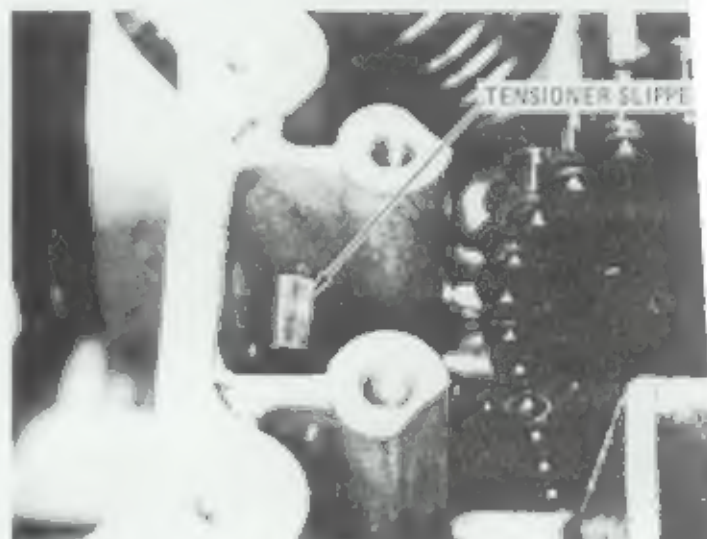

FIG. 17
10. Check tensioner slipper height (Fig. 17). The upper edge of the slipper should be below the upper surface of the cylinder head. If the slipper is not in this position, remove and reinstall.